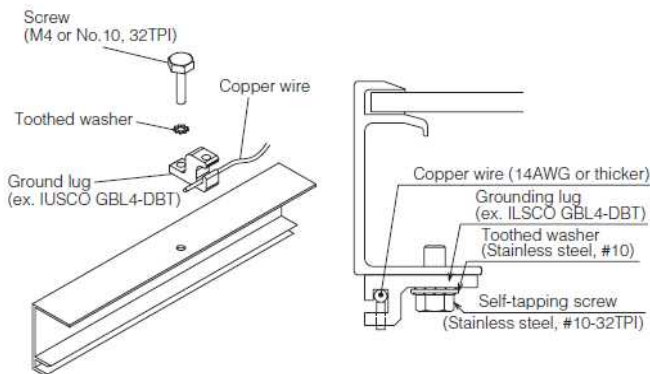

Fig. 4 Grounding method #2
- The appropriate device such as UL Listed ILSCO ground lug, Cat. No. GBL4-DBT should be secured by stainless steel screw (M4 or No.10) with 32 threads per inch by 2.3Nm (20lbf-in) as shown in the figure 4.